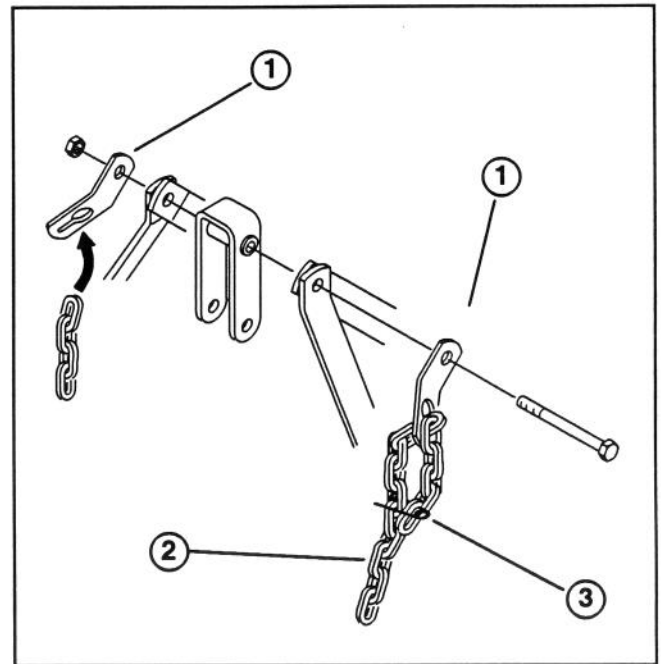

Figure 10
4. Secure a chain adjust bracket to outsides of the upper hitch brackets and braces with a new capscrew and locknut as shown in figure 10.
5. Hook a chain end in each bracket slot and secure with safety pin, as shown in figure 10.